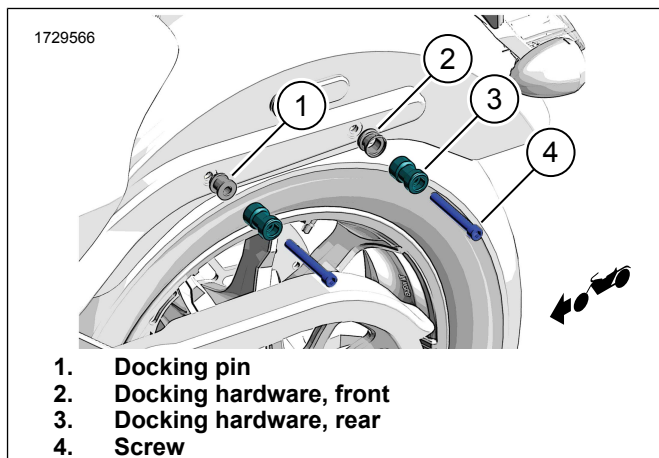

Figure 5. Docking Points (left side shown)
- d. See Figure 5. Install rear docking hardware (3), docking pin (1) and screw (4).
- e. See Figure 5. Install front docking hardware (2), docking pin (1) and screw (4).
- f. Torque screws (4). Tighten.